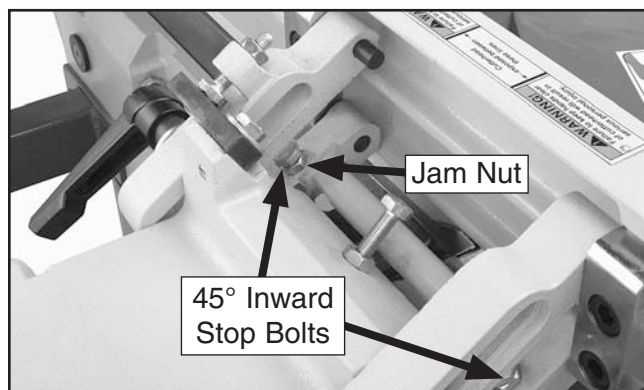

Figure 61. 45° inward stop bolt (one of two shown).
2. Loosen the jam nut on the 45° inward stop bolt shown in **Figure 61**.